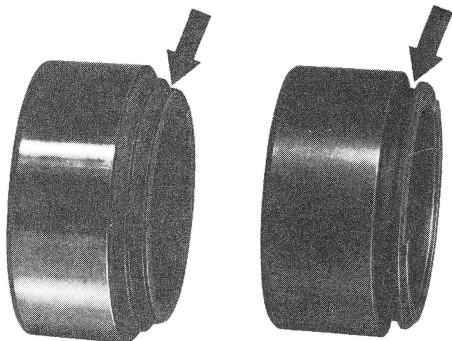

Fig. 11
**Note:** When installing piston, observe different piston versions (Fig. 11).